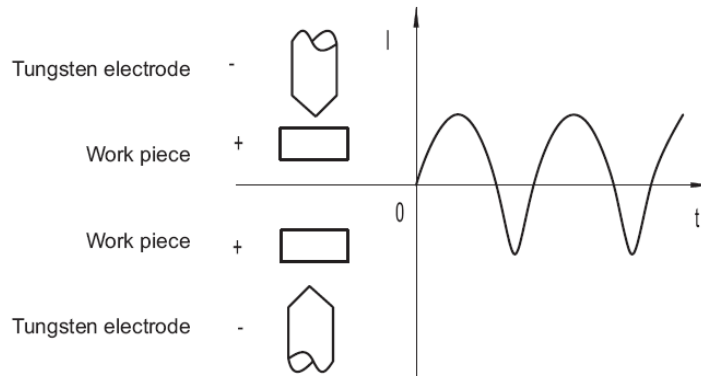

Fig. 5-3-12: Sine wave
**Sine wave:** Traditional smooth shaped waveform. Soft arc and less noise. Good for wide seam. (Fig. 5-3-12)